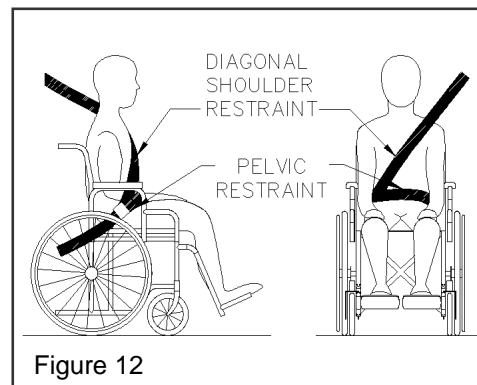

Figure 12
- belt webbing always lies across the center of wheelchair passenger's shoulder (Figure 12), and